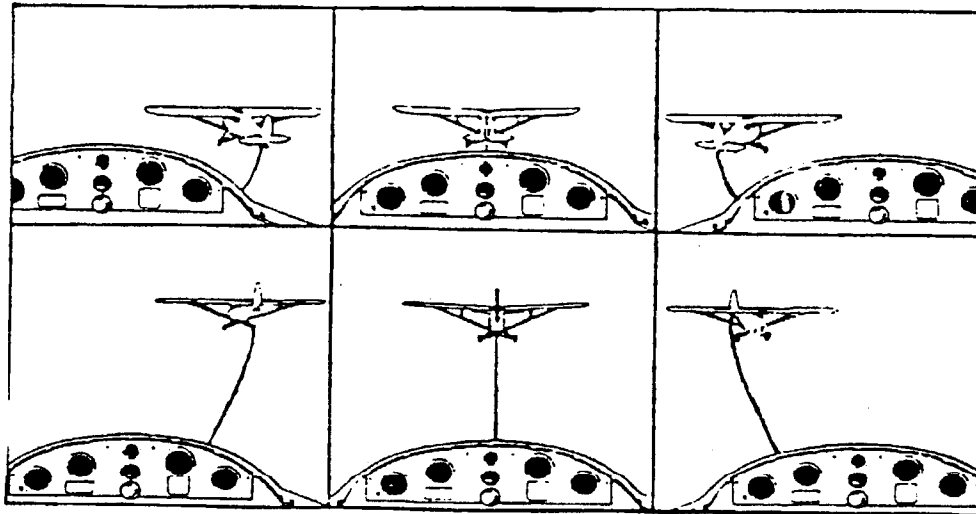

FIGURE 6-3
During normal aerotow, you fly above the propeller wash, a region of turbulence behind and below the tow plane emanating from the tow's propeller and wingtips. When you "box the wash," you fly a rectangular pattern around the "prop wash and wake created by the wingtips." Figure 6-3 shows the maneuver. Your Instructor will demonstrate a box the wash and may ask you to try it, though you don't have to achieve any level of proficiency. It's a challenging maneuver that requires you to use each of the control surfaces as you move around the prop wash. It's also a fun maneuver, showing the individual effect of each control surface and allowing you to build confidence on aerotow.
a. Start the maneuver from the normal aerotow position shown in the top middle frame of Figure 6-3. (This position is sometimes referred to as the "high aerotow" position.) You may proceed clockwise or counterclockwise, but assume that we're boxing the wash clockwise.
d. Slide left to the bottom left corner with some left rudder. Remember to keep the wings level. As you do this, you pass a few feet below the prop wash, transiting through the “low aerotow” position shown in the bottom middle frame of Figure 6-3. Pause slightly at the bottom left corner to see the tow’s tail on its wings and the tail wheel directly above the right main wheel.